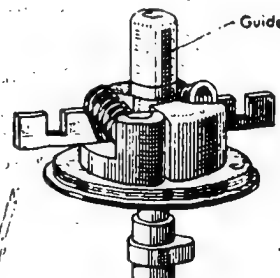

Fig. 10 Guide screwed on for assembly
5. Screw guide of 0 681 342 001 (EFEP 131) assembly tool on to coupling flange (Fig. 10). The drive flange of the latest timing devices has, instead of an oil seal, a brass ring with a groove into which an O ring is fitted. This brass ring has an internal diameter of 28 F 7 (28 ± 0.041 mm). From now on, the guides of the 1 687 950 015 (EFEP 231) assembly tool will be available with an external diameter of 28 h 11 (28 ± 0.130 mm). If the assembly tool available in the workshop has a 28.4 - 0.1 mm guide, this should be ground down to the 28 h 11 measurement (28 ± 0.130 mm).